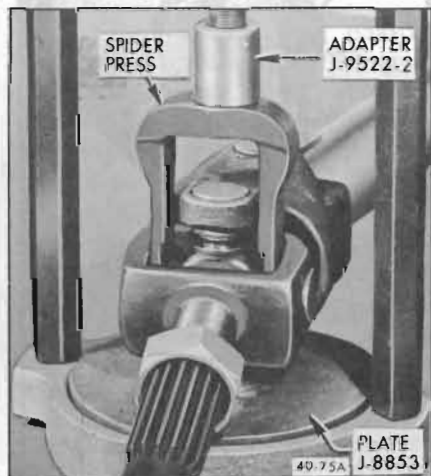

Figure 40-63—Pressing Out Bearing
2. Set up Power Ram and Hydraulic Pump in preparation for removing the propeller shaft bearings. With this use Axle Bearing and Retainer Replacer J-8853 as a base plate. Attach Adapter J-9522-2 onto the ram screw. See Figure 40-63.
3. Position propeller shaft constant velocity joint into the fixture as set up in Step 2 with the link yoke bearing over the hole in J-8853 Replacer Plate. Install Spider Press J-9522-3 on spider. See Figure 40-63. The notches in the spider press are offset so that this press can be positioned on the spider without interference from the link yoke casting. With tools in position, actuate the pump and force the spider against the lower bearing, pushing the bearing as far out of the yoke and through the hole in Tool J-8853 as possible.